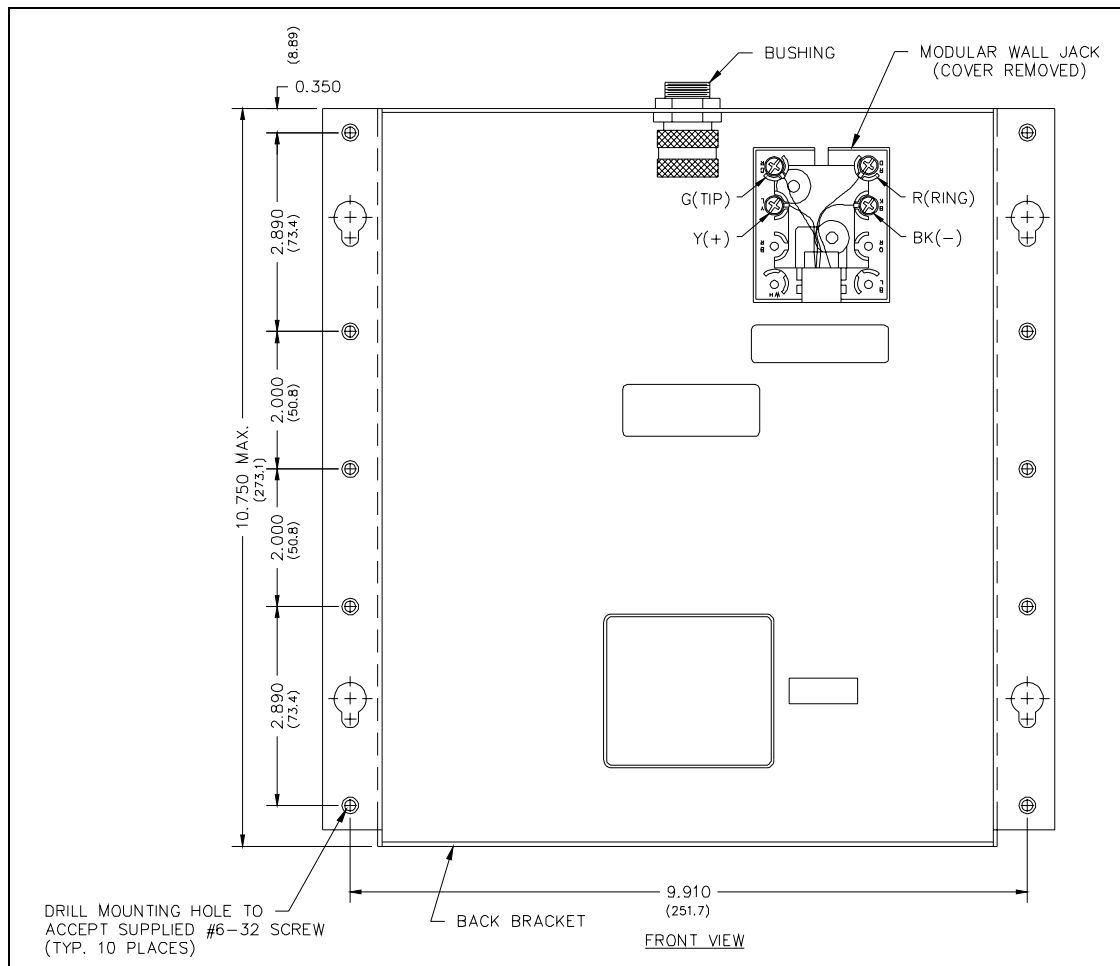

Figure 1. Modular Wall Jack Wiring for Model 295F
6. Snap the cover off of the modular wall jack. Refer to Figure 1 as a wiring guide. Wire the incoming tip wire to the green wire of the modular jack. Wire the incoming ring wire to the red wire of the modular jack, the (COM) wire to the yellow wire of the modular jack, and (-48 V) wire to the black wire of the modular jack.